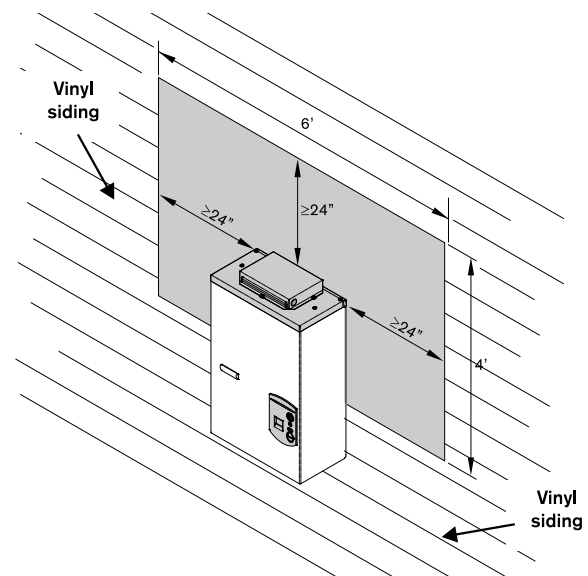

Fig. 10
The GWH-635-ESO is design certified for installation directly on a combustible wall. (see 2.7 Mounting installation) For installation on vinyl siding see Fig. 10. Keep the area below the heater free of combustible material.
**Warning:** Do not mount heater directly to vinyl siding. With vinyl siding surfacing, a 6' x 4' area of the siding must first be removed and then replaced with wood or other non-plastic made material. See Fig. 10.